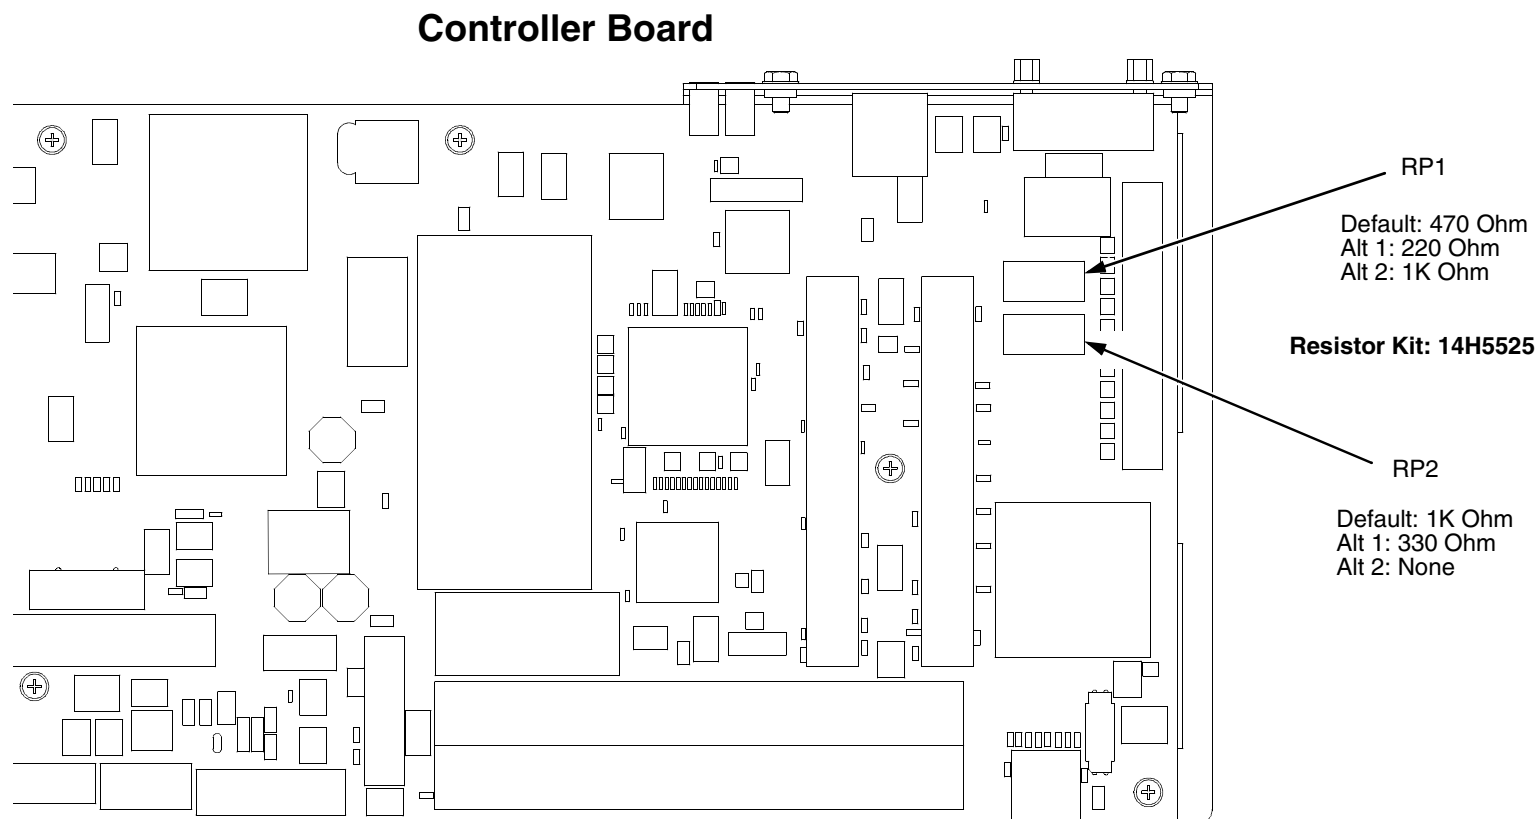

Figure 22. This figure shows the size and location of the terminating resistors on the controller board.
For parallel interface configurations, the printer is equipped with 470 ohm pull-up terminating resistors and 1K ohm pull-down terminating resistors on the controller board. These are suitable for most applications. (See Figure 22, page 374.)
3. Locate the terminating resistor packs. (See Figure 22, page 374.)
1. Using a chip installation tool, install the resistor packs in the correct socket. (See Figure 22, page 374.)